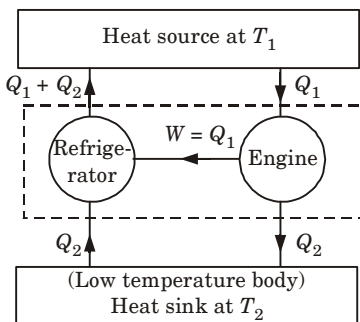

Fig. 2.4.1.
- Combining the engine the refrigerator into one system working between same temperature limits, we observe that the sole effect of combined system is to transfer Q_2 from low temperature heat reservoir T_2 to high temperature heat reservoir without any work input thus violating the Clausius statement Fig. 2.4.1.